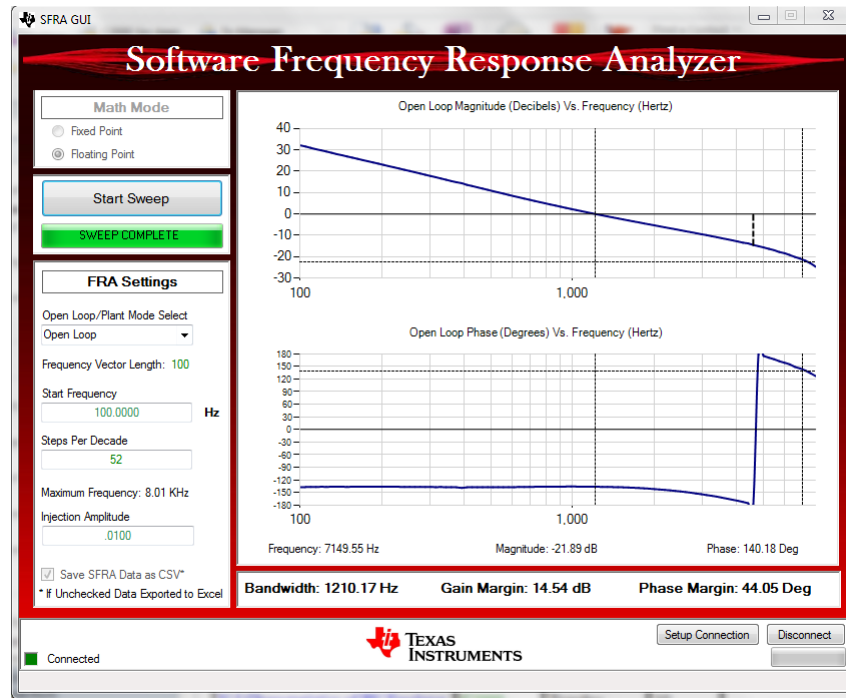

Figure 29. SFRA Run on Closed Current Loop
- Once complete, a graph will open a loop plot, as shown in Figure 29. This verifies that the designed compensator is stable.